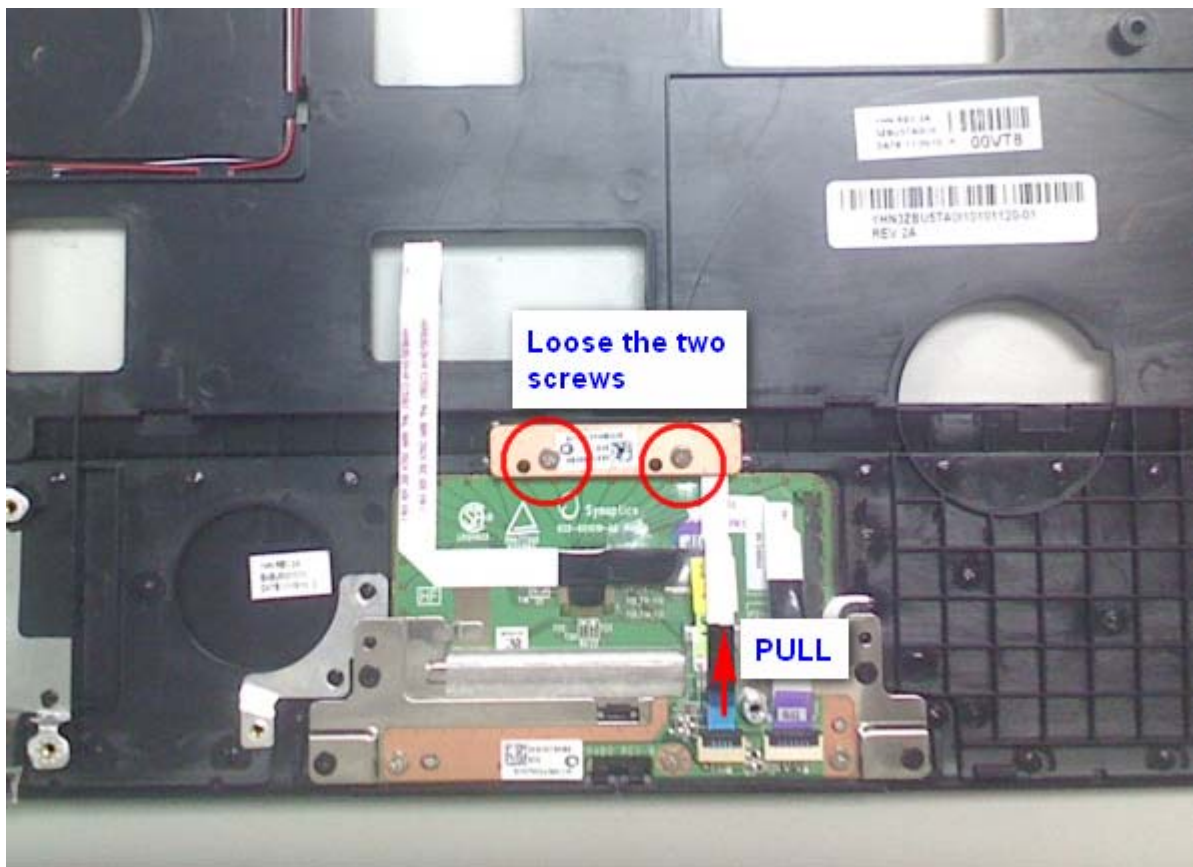

Figure 4-7-1 Remove switch board
4. Loose SCREW M2.0*2.5F 2PCS and pull the cable from the connector on Touch Pad Board to take off Touch Pad Switch Board. (see Figure 4-7-1)